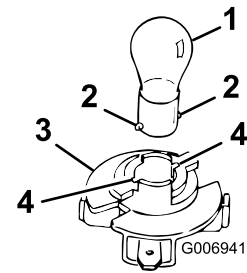

Figure 54
4. Insert and rotate the bulb counterclockwise until it stops (approx. 1/4 turn), and remove the bulb from the bulb holder (Figure 54).
2. Insert the base into the holder (Figure 54).